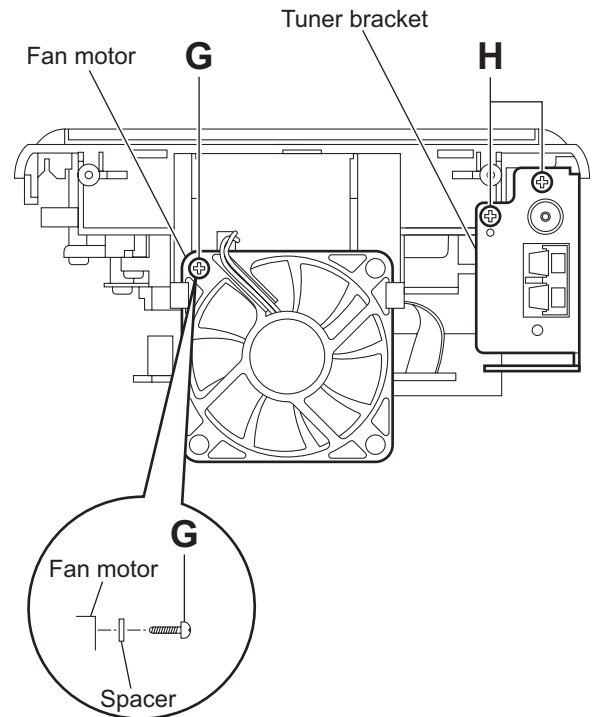

Fig.9
3.1.5 Removing the fan motor (See Figs.9 and 10)
- Remove the rear cover, side panels(L)/(R) and top cover assembly.
- (1) From the back side of the top cover assembly, remove the screw **G** attaching the fan motor. (See Fig.9.)
(See Fig.9.)
3.1.6 Removing the tuner (See Figs.9 and 10)
- (1) From the back side of the top cover assembly, remove the two screws **H** attaching the tuner bracket. (See Fig.9.)